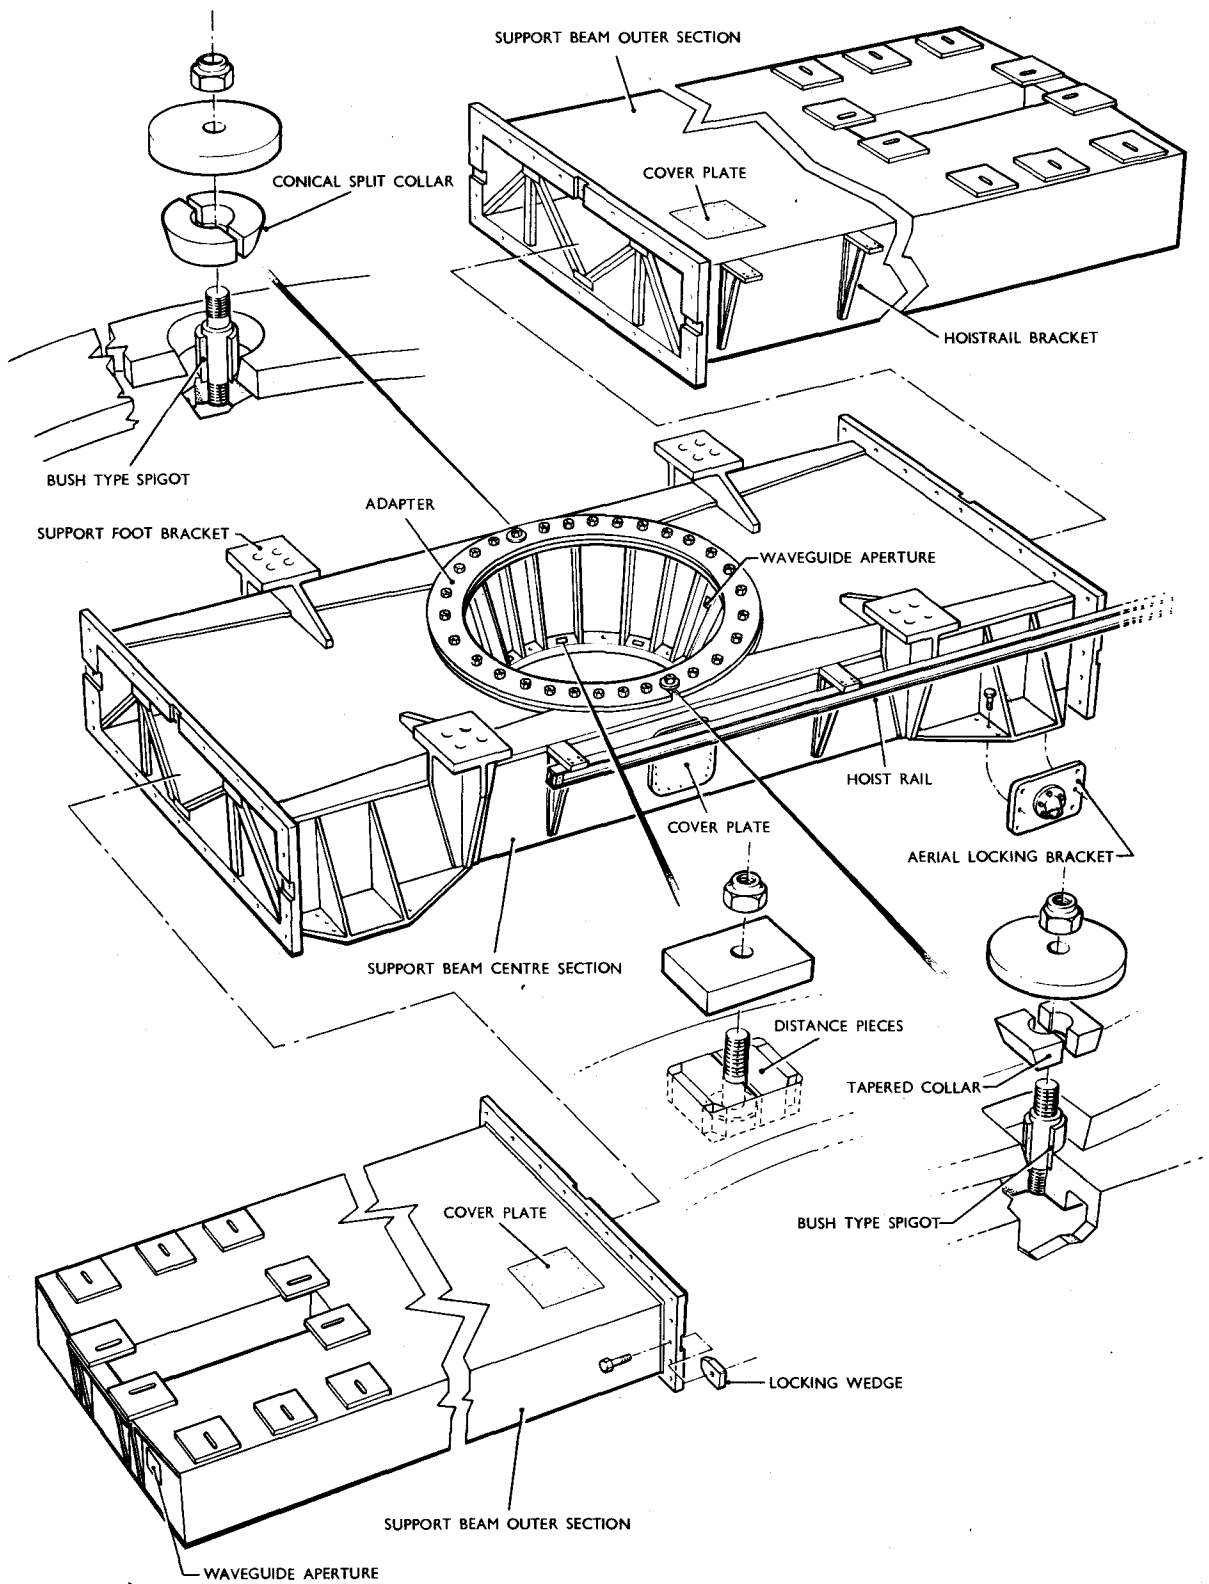

Fig.2 Support beam: exploded view
15. The support beam assembly (fig.2) supports the reflector assembly and hornstacks and incorporates a hoist beam, used together with a hoist when servicing the drive motors of the turning gear and to transfer the aerial turning gear hoist equipment from the ground to the gantry platform or from the platform to the ground.